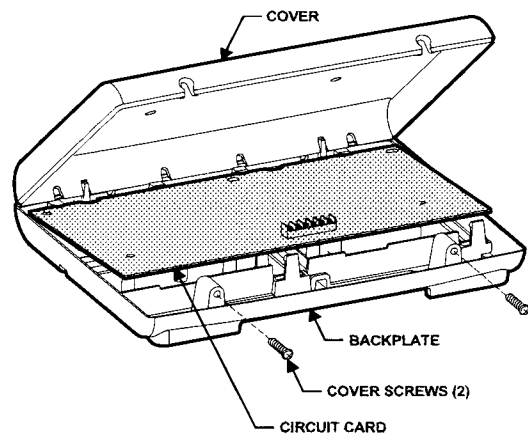

Figure 3. Removing the Cover
3. Remove the transceiver cover and set it aside (see figure 3).